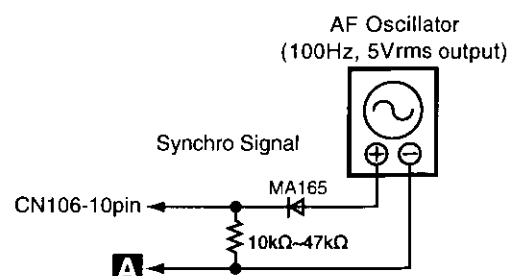

Fig. 3
3. Connect an AF Oscillator to CN601 (10-pin) and **B**, then adjust the output to 100Hz, 5Vrms. (Fig.3)